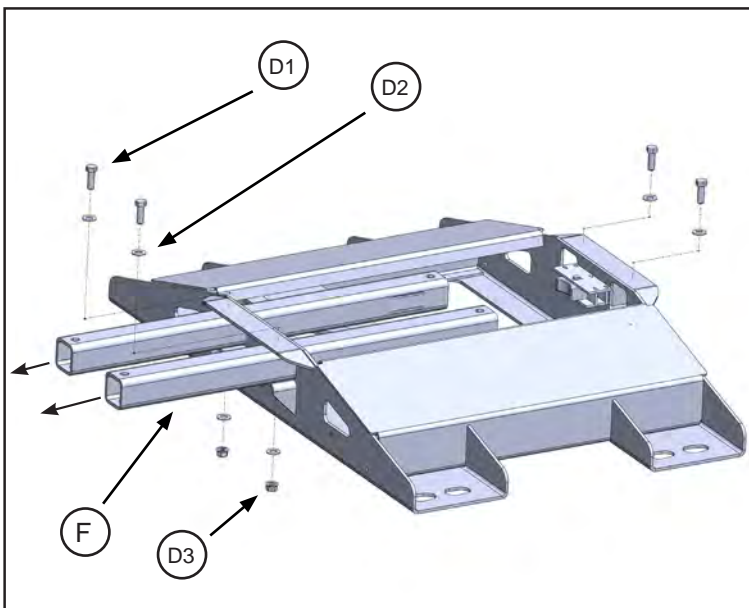

Figure 2
3. Remove the four 1/2" bolts {D1} that fasten the Way Tubes to the base of the hitch. Retain the bolts, flatwashers {D2}, and flange nuts {D3} (see Figure 2).
4. Pull both Way Tubes from the forward bulkhead by pulling them both toward the rear (tailgate end) of the hitch enough to where they are free from the front end (see Figure 2).